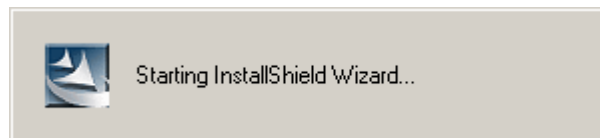

Figure 6-32: The InstallShield Wizard Starts
Step 4: The **InstallShield Wizard** starts (**Figure 6-32**).